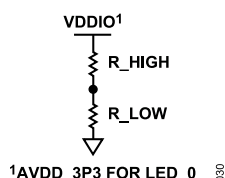

Figure 27. Hardware Configuration Pin Implementation
Hardware configuration pins are pins shared with functional pins, and the voltage level on the pin is sensed upon exiting from a reset. Some hardware configuration pins are multilevel sense, while others are two-level sense. Using two resistors, R_LOW and R_HIGH (see Figure 27), four different voltage levels can be sensed as shown in Table 21. Only MODE_1 (L) and MODE_4 (H) are relevant to the two-level sense pins and these are implemented with a 10 k Ω pull-down resistor or a 10 k Ω pull-up resistor, respectively. Note that LED_0 must be pulled up to the AVDD_3P3 rail rather than VDDIO